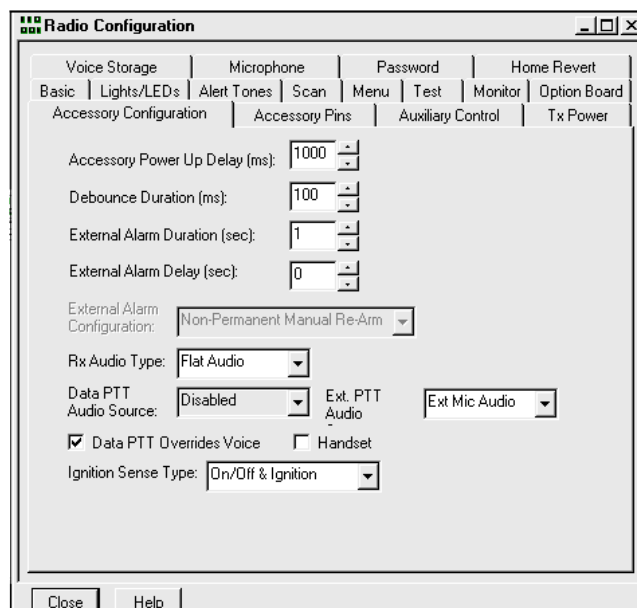

Figure 9-1. Radio Configuration, Accessory Configuration, Receive Radio
5. Click the “Ignition Sense Type:” dropdown arrow button. Select “On/Off & Ignition”. Your screen should appear similar to Figure 9-1.